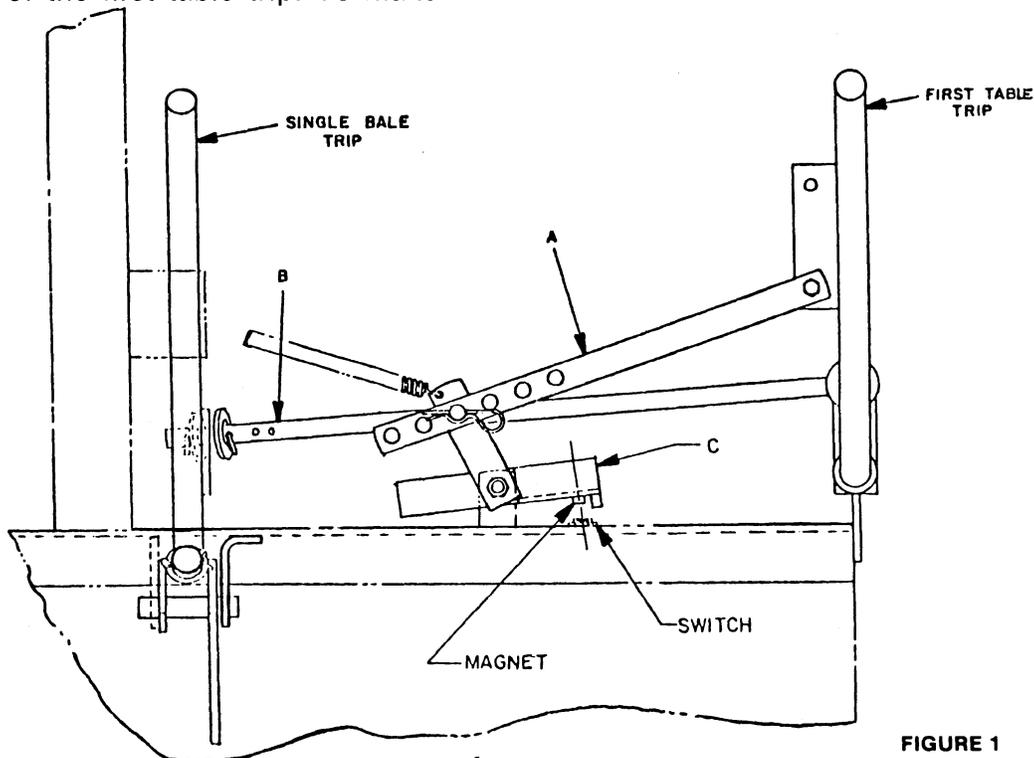

FIGURE 1
1. The first table trip arm should be adjusted so it will trip the first table linkage and actuate the electronic system when two average length bales are centered on the first table. Make an estimated setting and then deliver two bales to the second table. Determine if the bales are centered when delivered onto the second table. If they are not centered, adjust the first table trip linkage. See Figure 1.
See Figure 1. It may be necessary to adjust the spacing between the activating magnet and the electronic sensor to insure proper operation of the first table trip. To make
3. Under most conditions, it will not be necessary to adjust the location of the single bale trip to change placement of the center bale in a tie tier. However, in some conditions it may be desirable to relocate the center bale. See Figure 1.